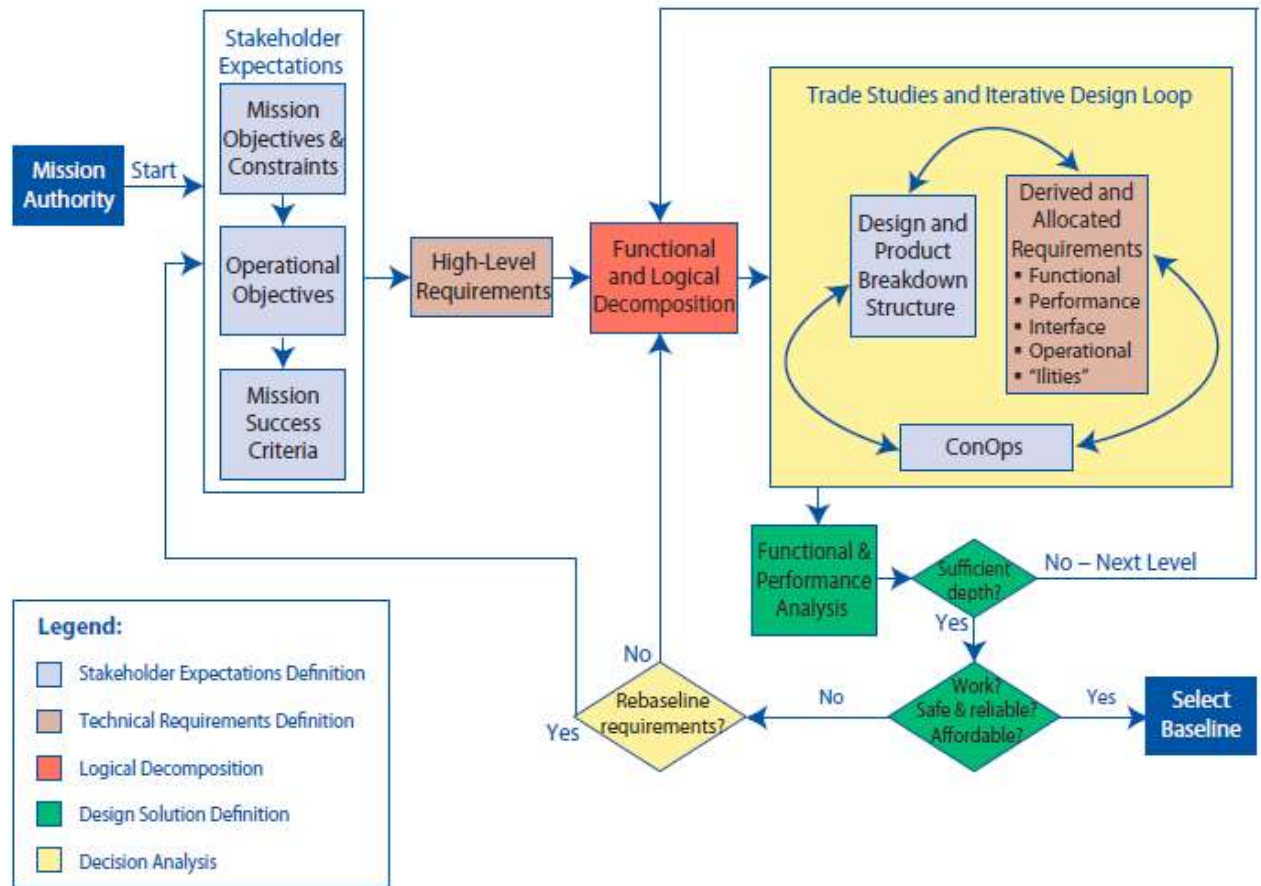

Figure 4.0-1 Interrelationships among the system design processes
- Stakeholder expectations (Fig 4.0-1) will be provided on Sat 1/9